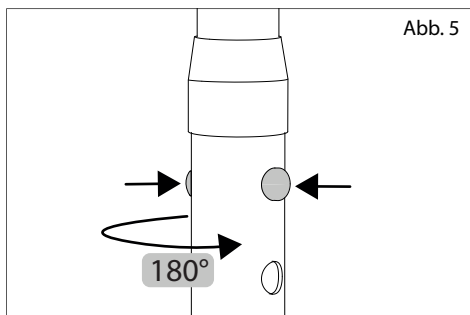

Abb. 5
4. Press in both spring pins and twist the push handle 180° without changing the height (Fig. 5).